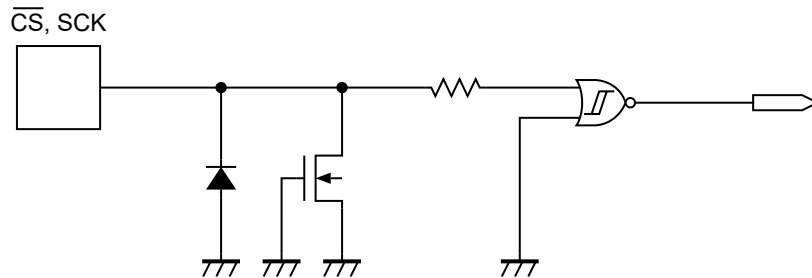

Figure 22  $\overline{\text{CS}}$ , SCK Pin
**Figure 22** and **23** show the equivalent circuits of input pins in the S-25C080A. A pull-up and pull-down elements are not included in each input pin, pay attention not to set it in the floating state when you design.